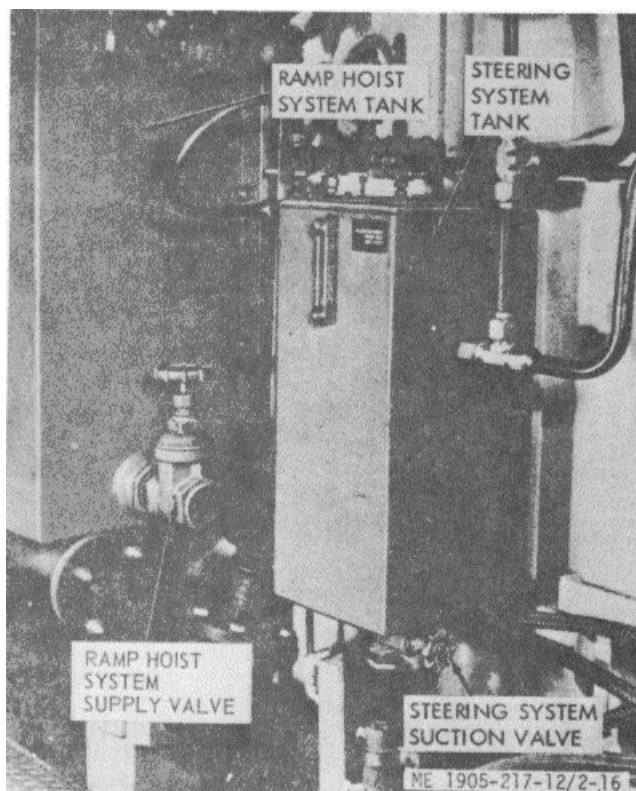

Figure 2-16. Steering system and ramp hoist system suction valves, hull numbers 8500 thru 8519.
(8) Open the hydraulic steering suction valve (fig. 2-16).